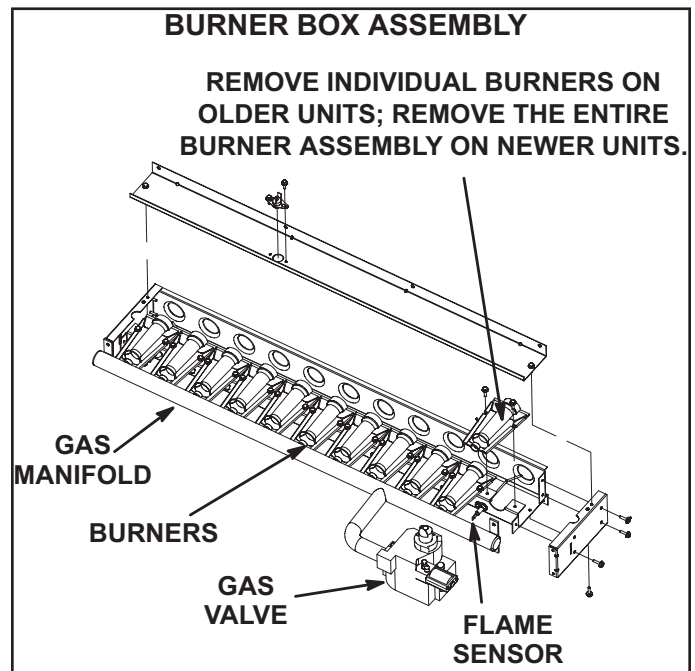

FIGURE 21
- 3 - Remove screws securing burners to burner support and lift the individual burners or entire burner assembly from the orifices. See FIGURE 21. Clean as necessary.